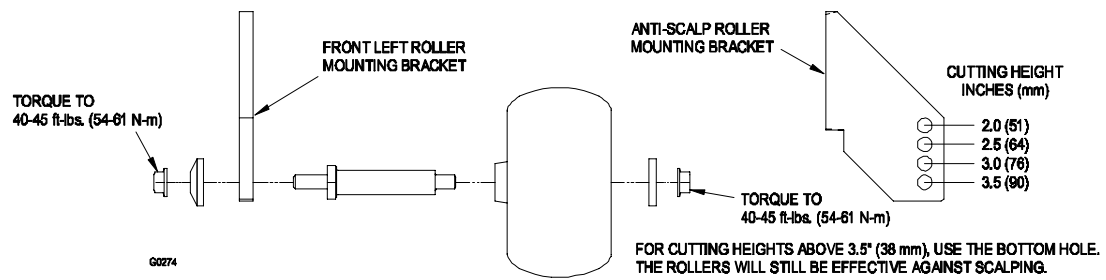
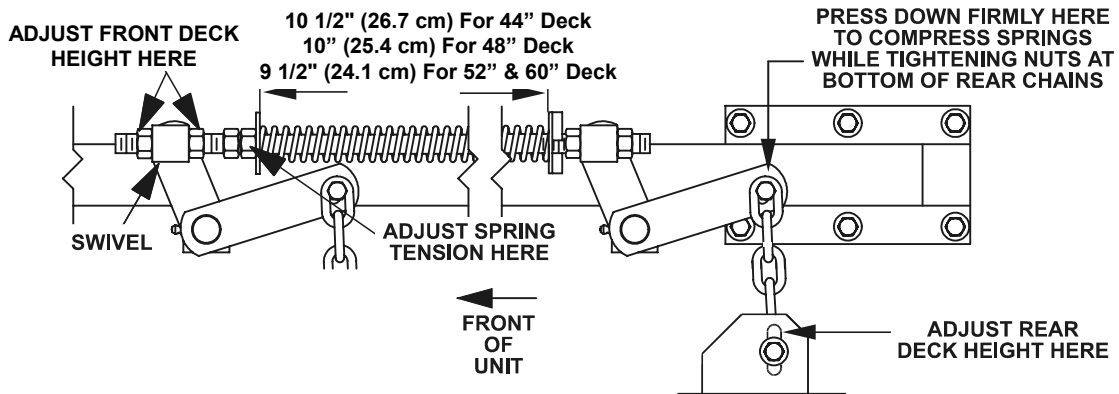

FIGURE 6
FIGURE 7
- g) Adjust anti-scalp rollers for Normal Operating Conditions. Stop engine, wait for all moving parts to stop, and remove key. Place rollers in one of the positions shown in Figure 6. Rollers will maintain 3/4 in. (19 mm) clearance to the ground to minimize gouging and roller wear or damage.
- e) Raise the deck to the 4.5" (11.4 cm) height position and take as much force as possible off of the two large deck lift springs by loosening the nuts at the front of each spring. See Figure 7.
- g) Loosen the two (2) bottom chain bolts in slots at the rear of the cutting deck. Loosen four (4) nuts which secure front swivels (two per side), until front chains are loose and front of deck is supported by the 1-1/8" (2.9 cm) block. Do not loosen front chain hardware.
- h) When hardware is loosened, remaining tension in the large support springs will tend to rotate the deck lift handle up, out of the 1 1/2" (3.8 cm) position. Press down on the rear deck support arm (as shown in Figure 7) to firmly return the deck lift handle to the 1 1/2" (3.8 cm) position. **DO NOT** push on deck lift handle. While continuing to press down, take the slack out of the rear chains and tighten hardware at the bottom of the rear chains. Downward pressure may now be released.
- k) Raise deck lift lever to the 4.5" (11.4 cm) cutting height position (also transport position, See Figure 6). Adjust spring compression until proper distance is obtained between the two washers (See Figure 7) by turning the nut at the front of each spring. Lock nuts in position with jam nuts.